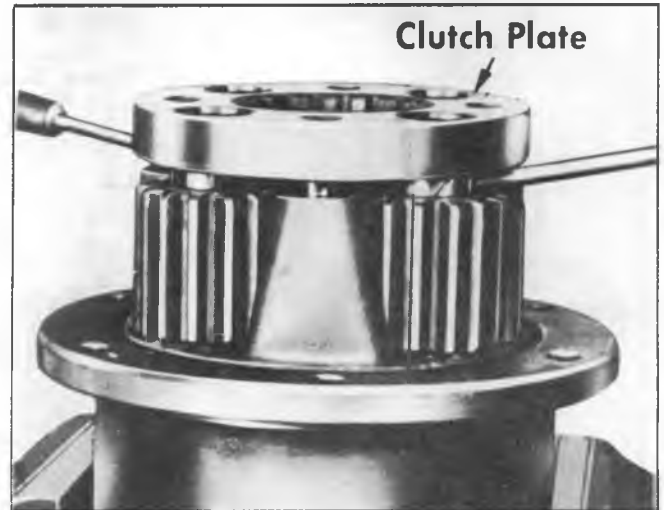

Fig. 3L--High-Speed Clutch Plate Removal
1. Remove nuts from ring gear bolts (9); then remove bolts.
2. Tap ring gear (28) with rawhide mallet until free of support case flange.
3. Lift left-hand support case (29), thrust washer (27) and ring gear (28) off right-hand support case.
4. Pry high speed clutch plate (26) off idler pinion and clutch plate pins (25 and 24) as shown in Figure 3L then remove pinions and pins.